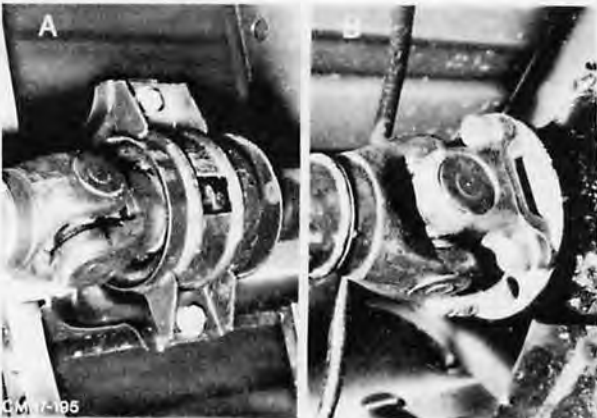

Fig. 36. Driveshaft installed
33. Remove plug from extension housing and fit driveshaft **without strain**, Fig. 36.